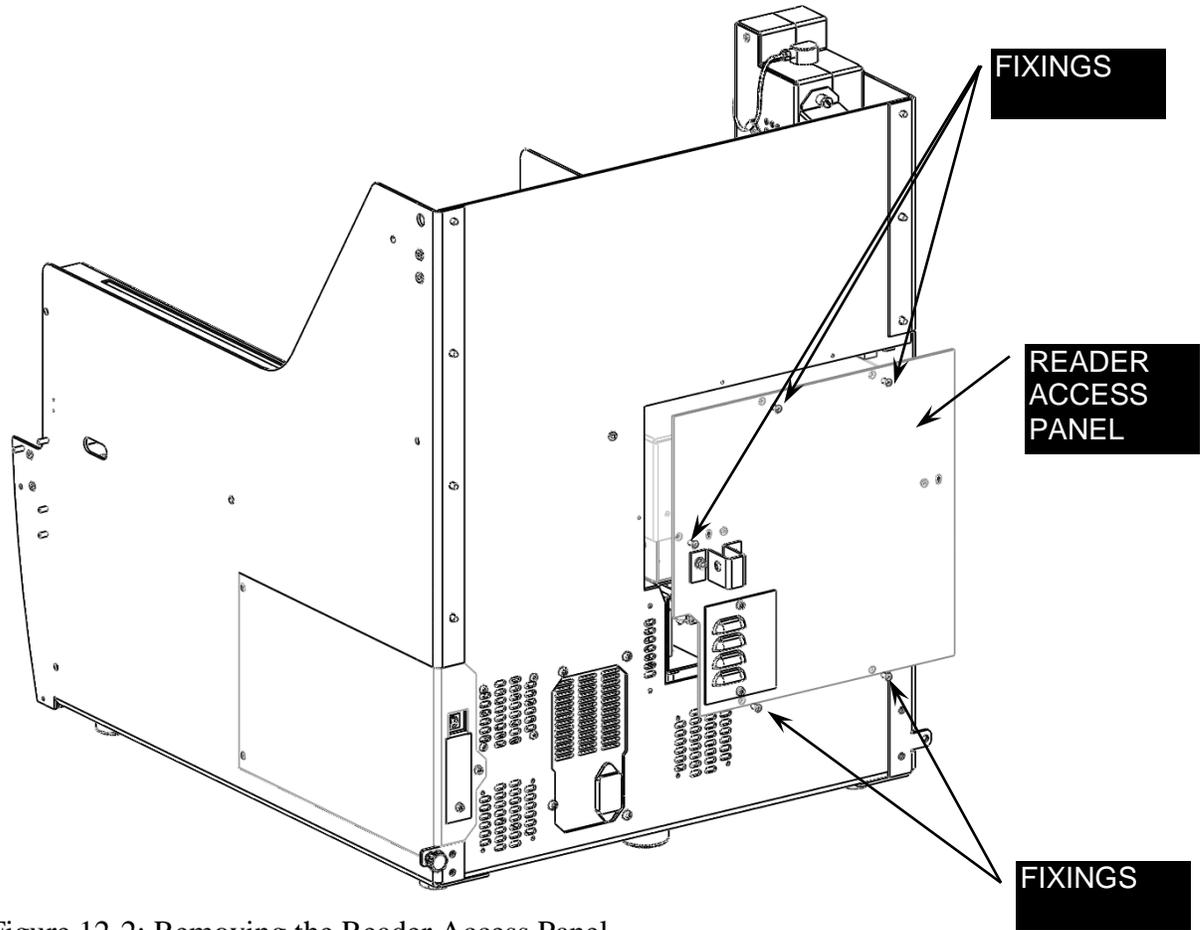

Figure 12-2: Removing the Reader Access Panel
1. Remove the screws that attach the Reader Access Cover from the rear of the system (Figure 12-2).